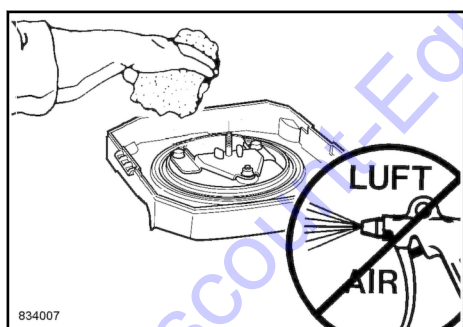

Fig. 165
1. Clean out the air filter housing with a cloth ↪ Fig. 165.